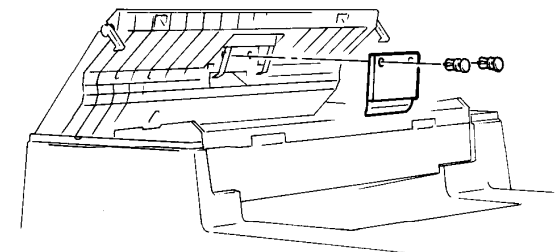

Figure 1. Retard pad
4. Remove the two plastic rivets retaining the retard pad and spring. (figure 1).